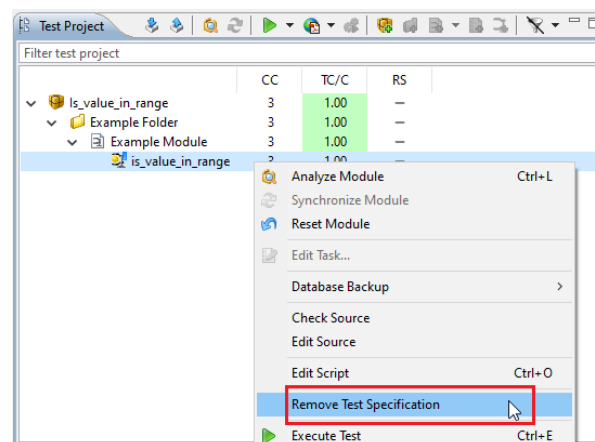

Figure 6.184: Remove Test Specification
- In the pull down menu click “Remove Test Specification” (see figure 6.184).